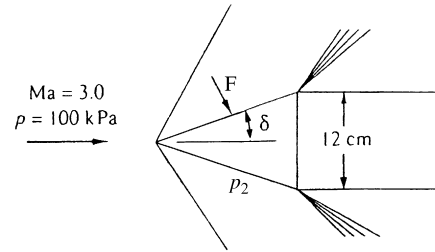

Fig. P9.128
**9.128** Air flows past a two-dimensional wedge-nosed body as in Fig. P9.128. Determine the wedge half-angle  $\delta$  for which the horizontal component of the total pressure force on the nose is 35 kN/m of depth into the paper.